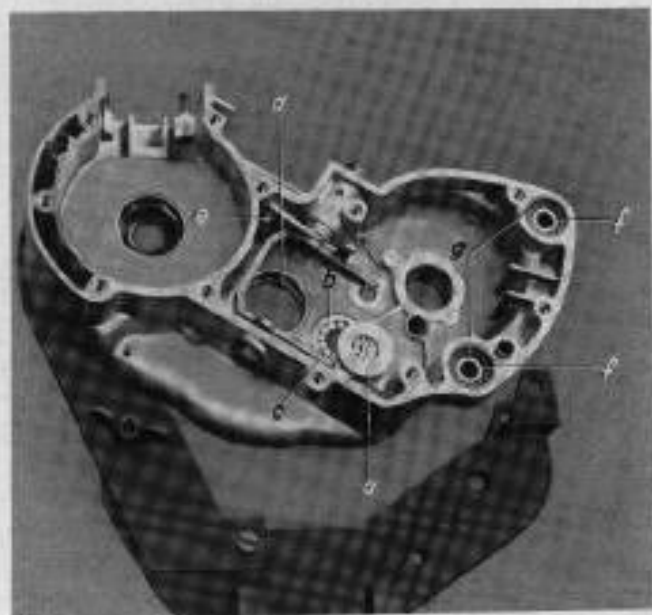

Fig. 36
#### 4.23 Bearing-main shaft Insert washer 244 390 (a), and press in the outer race (b) 232 120. Insert 13 rollers (c), 4 x 6 mm, in hot bearing grease, and cover with washer 244 390 (a). (Fig. 36)
#### 4.24 Bearing-countershaft Insert groove bearing outer race (d) - E 15 - to the ball bearing bushing 286 791. (Fig. 36)
- 4.28 Insert two wedge plates (g) for the rubber bearings (f). (Fig. 36)